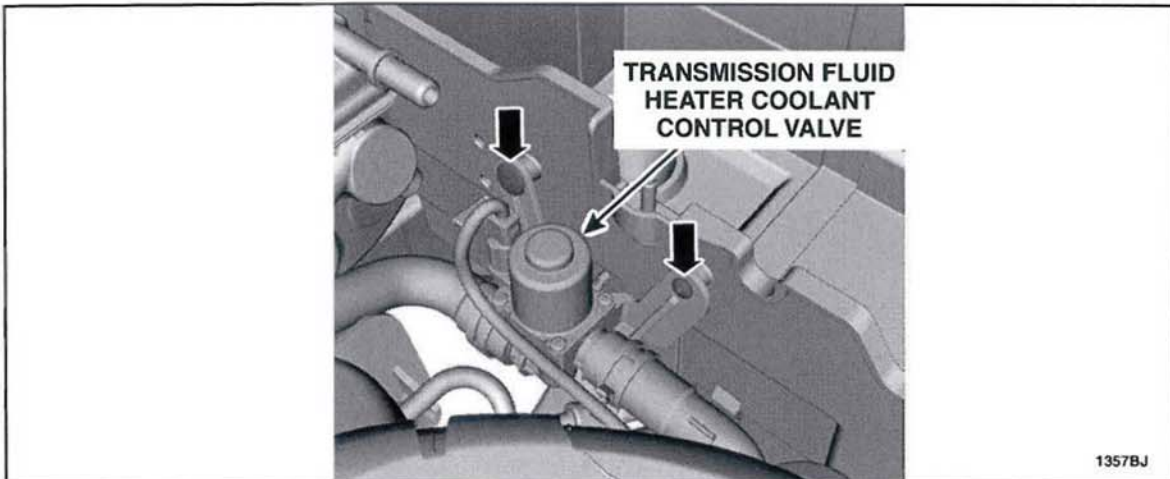

FIGURE E5
- Do not attach the transmission fluid heater coolant control valve to the battery tray at this time. See Figure E5.
8. Install the transmission fluid heater coolant control valve to the battery tray and install the two (2) retainers. See Figure E5.